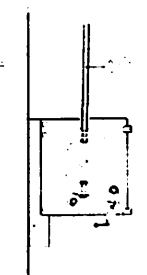

FIGURE 9
- F. Set Release Arms as shown in Figure 9.